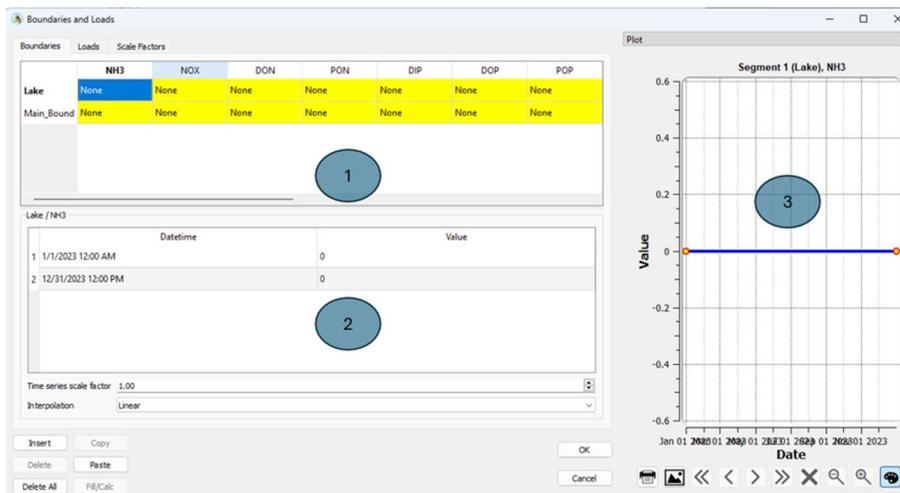

Figure 16 Entering a Boundary Concentration for State Variable and Boundary Segment
Figure 16 shows the boundary data entry screen. The upper table (1) displays all the boundaries, which is a row for each of the segments in the WASP network that has a flow coming in from outside the model network or where a flow leaves the model network. In the case of the Lake segment if we had a reversing flow here, we would need to provide a concentration associated with that flow. The columns across the top of the table represent the state variables being simulated. Selecting a row and column will allow the user to enter/edit or review the time series of concentrations entered in table (2). A time series graph will be displayed (3) for the data entered in table 2.